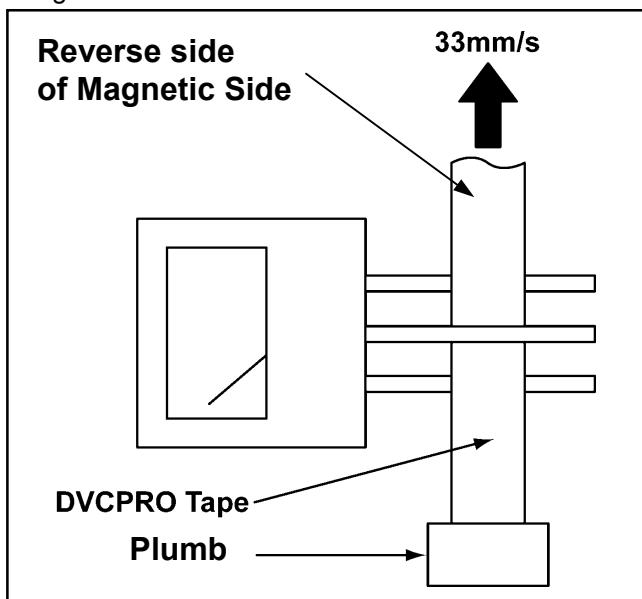

Figure 3-8-1
2. Set the above tape to the Tension Meter as shown in figure 3-8-1.
- ◆ To calibrate Tension Meter, the tape must be inserted into the posts of Tension Meter as shown in figure 3-8-1.